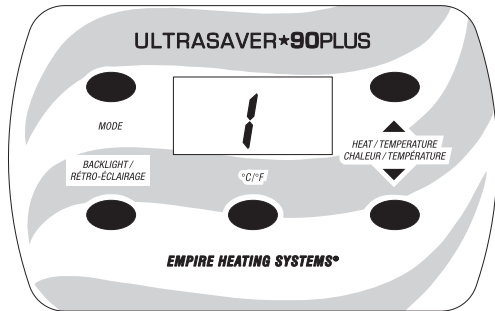

Figure 6
2. When the external control is activated, the wall furnace display panel will illuminate and show the heat level along with the remote signal symbol. The wall furnace will begin the start up sequence automatically. See Figure 6.